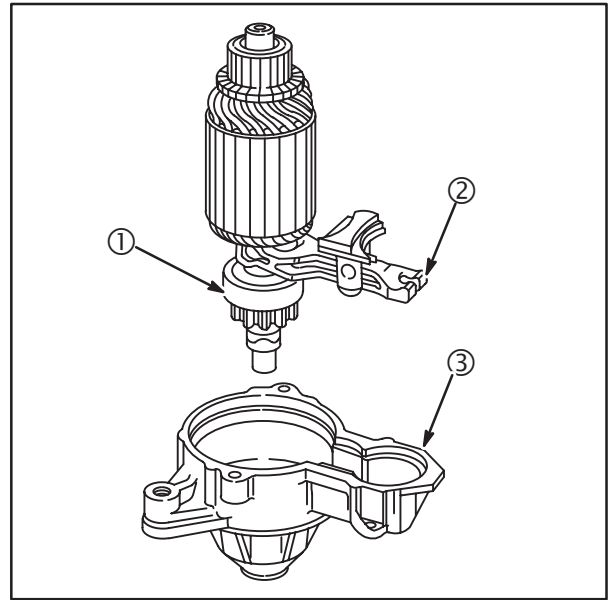

Fig. 42
1. Assemble drive lever (2) to pinion (1). Install armature and drive lever into drive housing (3), Fig. 42.